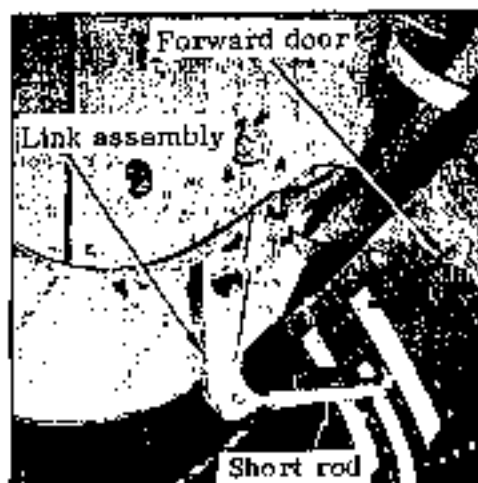

Fig. 4-32 Removal of forward door
- (1) Disconnect the forward doors from door mechanism by removing the short rod. (See Fig 4-32)
- (2) Operate the actuator independently. Check the actuator shaft for extended and retracted lengths at the position where limit switch actuates.
- (1) In accordance with the following steps, ascertain that left and right doors close together.
- (c) Adjustment is made by adjusting the length of rod in Fig. 4-32.